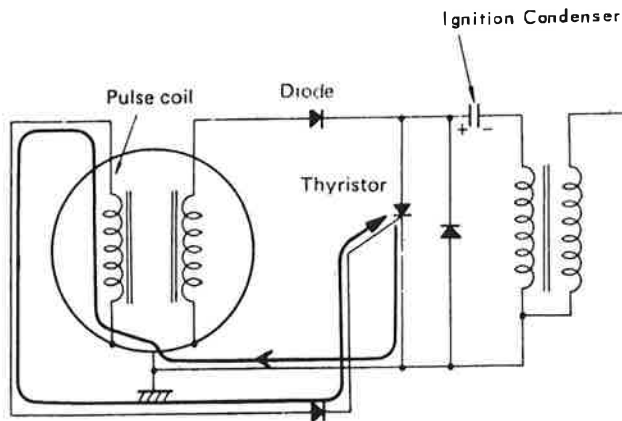

Fig. 2 Trigger Pulse to Thyristor
- (1) With the rotor in the position shown in the diagram below, an e.m.f. is produced in the charge coil, and the current rectified by the diode begins to charge the ignition condenser (Fig. 1). As the rotor turns about 180° (the mark on the pulser aligns with the mark on the rotor) after the charging has started, the pulse coil (pulser) emits the pulse shown in the diagram, and the current (half-wave rectified by the diode) begins to flow thru the circuit shown in the diagram, sending a signal to the gate of the thyristor (Fig. 2).